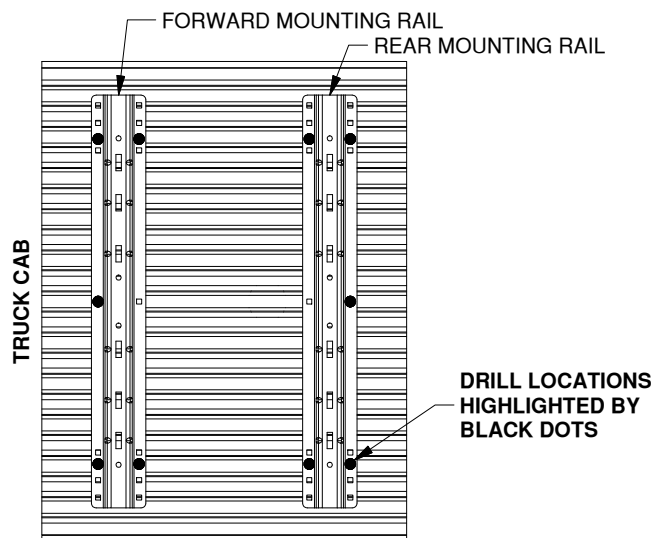

Figure A2: Detail view over bed, showing drill locations for the forward and rear bed rails.
- 2. Mark the hole locations.** While carefully ensuring the mounting rail does not move, use a center punch tool to mark the five drill locations on the rear rail that match your truck's suspension style, shown in Figure A2. (Forward rails will install on a later step.) It is critical that the five drill locations be marked exactly in the center of the square hole in the rail. Once all five rear rail locations are clearly marked, move the bed rail out of the way and drill each location with an 1/8" drill.
2. **Drill forward mounting pilot holes.** Using the holes in the forward mounting rail, mark the five drill locations. Refer to "DRILL REAR MOUNTING HOLES" section, Step 2, on Page 2. Notice that the hole locations may be slightly different than the rear rail, see Figure A2. It is critical that the five drill locations be marked exactly in the center of the square hole in the forward rail. Drill each of the marked locations with a 1/8" pilot hole.